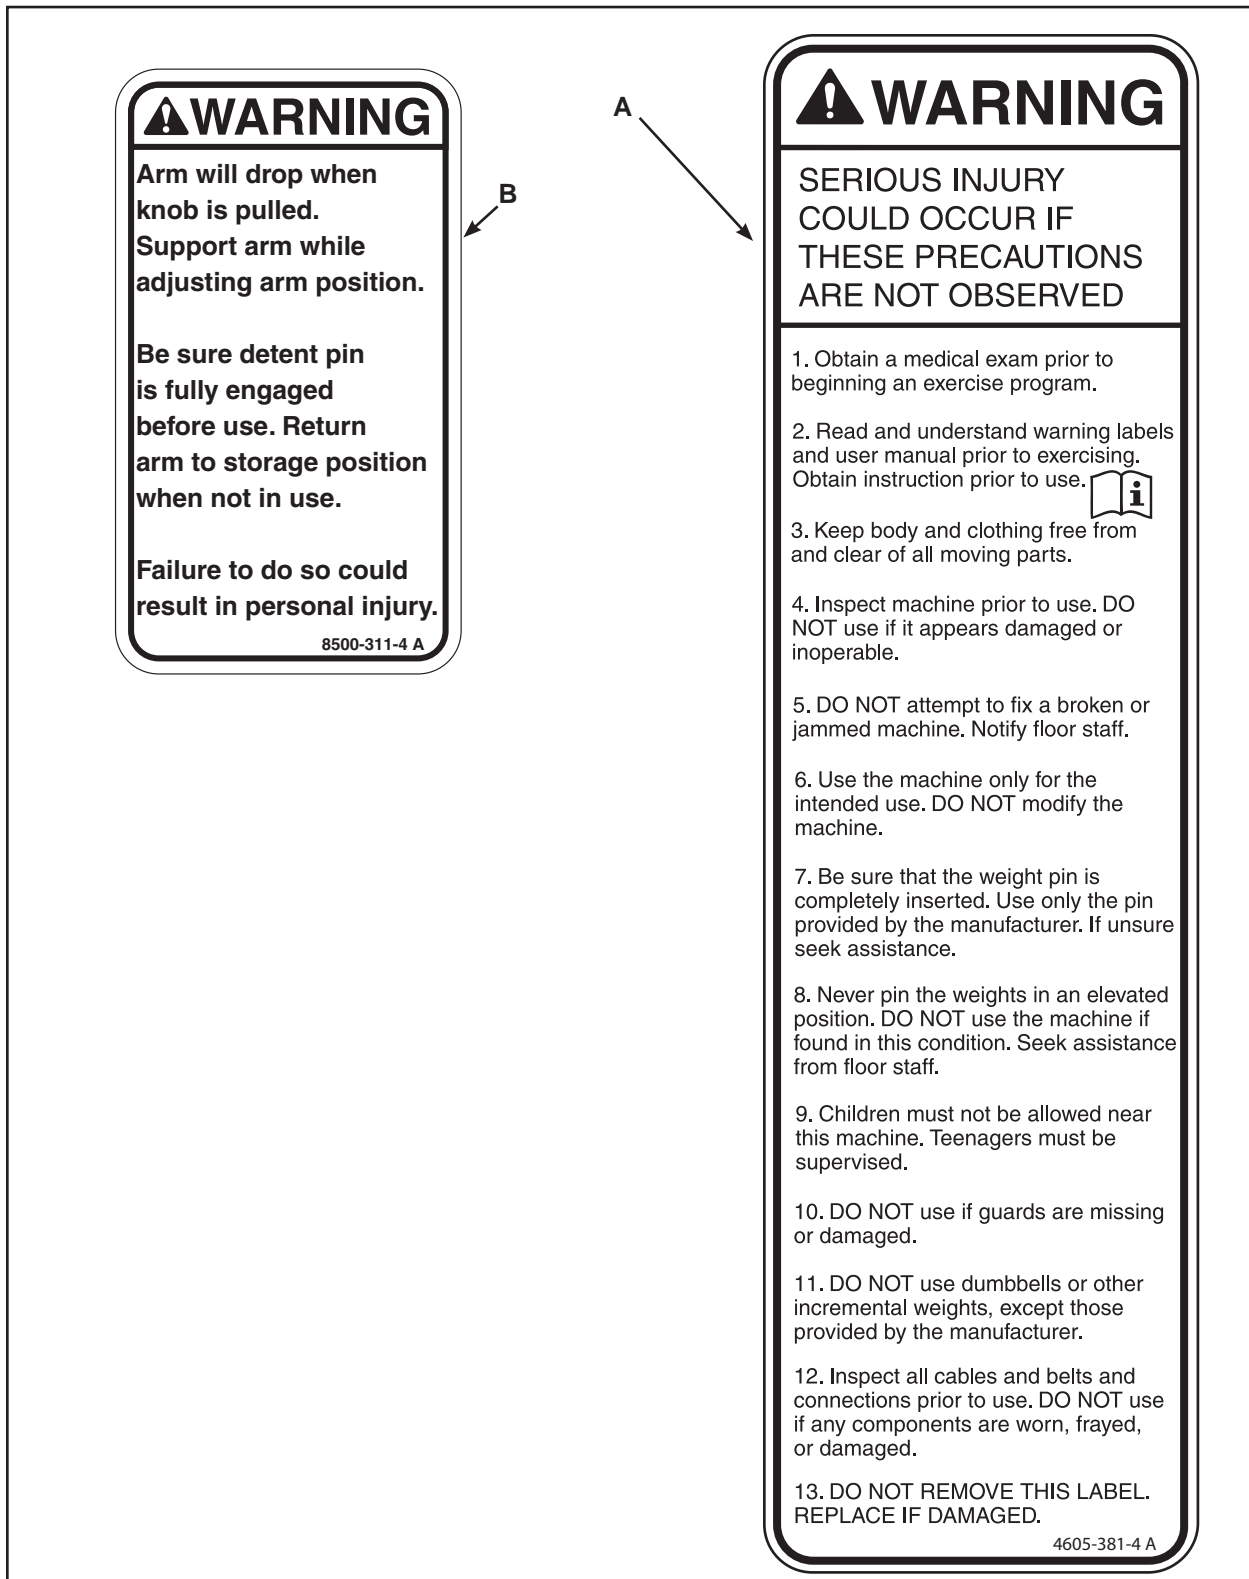

Figure 3
- C. Verify the Warning and Caution Decal, part number 9100-348-4 is present and not damaged. See Figures 3 and 4 to identify what the decals look like and their proper location.